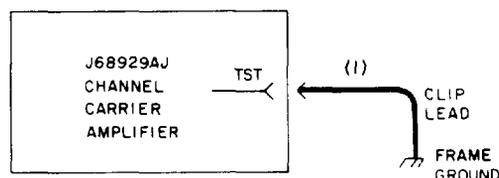

Fig. 18—Connections—Channel-Carrier-Detector-Operation Test—Regular Carrier Supply
36 Connect the TST jack on the face of channel carrier amplifier unit 1 to the frame ground [connection (1), Fig. 18].